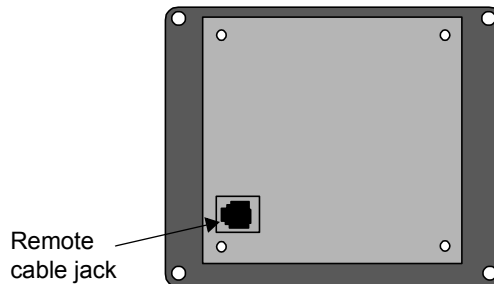

Figure 2-3 RC/GS and RC7 Back View
6. Connect the other end of the cable into the jack on the remote (Figure 2-3).